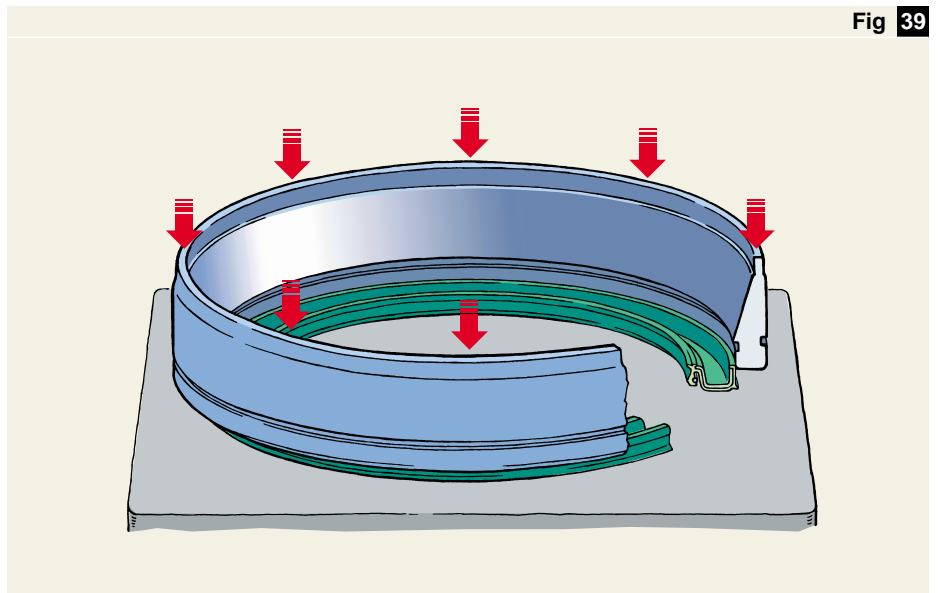

Fig 39
- Press new seal into the outer ring (→ fig 39). The seal must fit tightly.